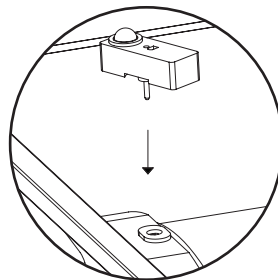

Fig. 2
2.Plug sensor to the receptacle.(Fig. 2)